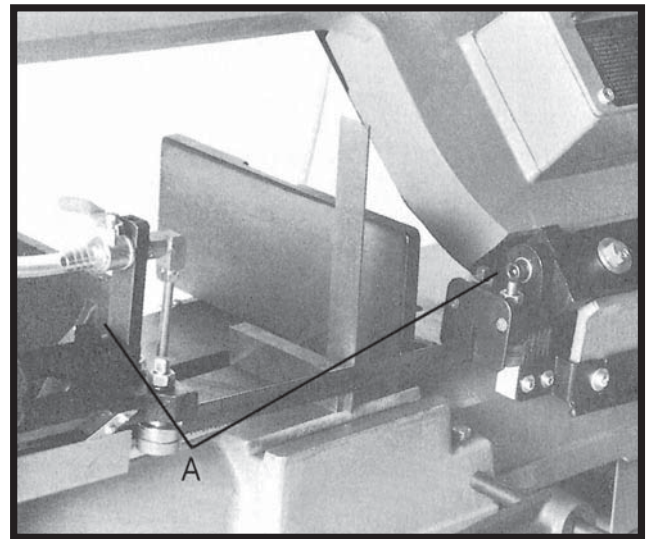

Fig. 6
2. Place machinist's square on table next to blade as pictured in Fig. 6.